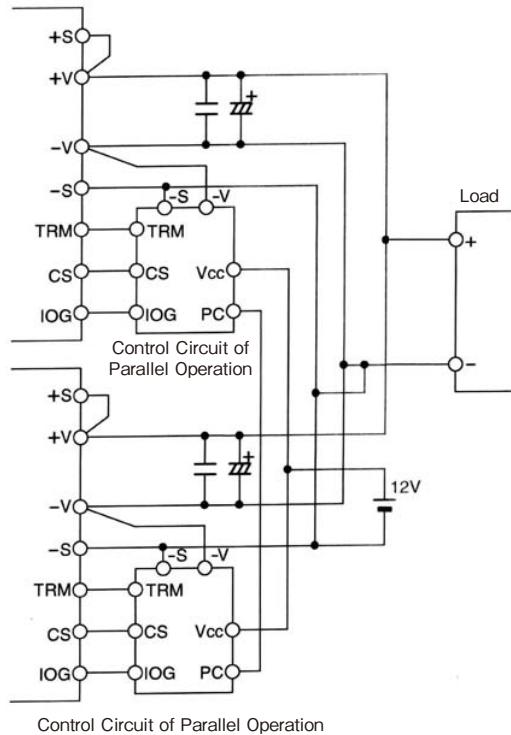
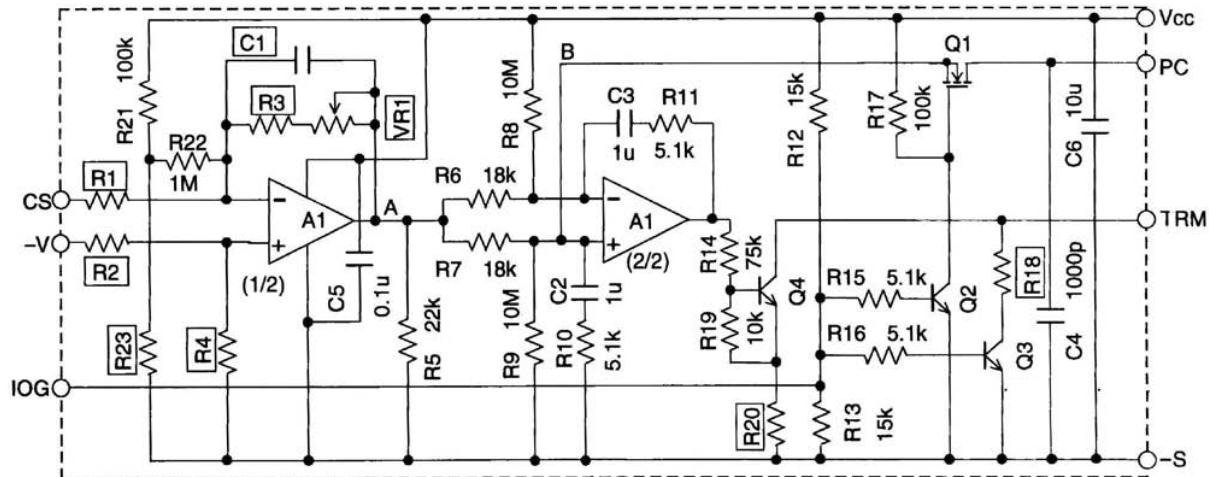

Figure3-1 Basic Connection Circuit of Parallel Operation
Figure3-2 Control Circuit for Parallel Operation
Basic circuit connection is shown in Figure3-1. For control circuit of parallel operation, individually connect a circuit shown in Figure3-2 to each PH300S, 600S series of power module of parallel operation.
(2) Terminal Explanation of Figure3-2
For CS terminal voltage is a small voltage in negative polarity, Op-Amp A1 (1/2) is amplifier inverting shown as Figure3-2. For all of PH modules to be in parallel operation, VR1 shall be adjusted to equalize with the voltage at A point at full load. Setting voltage of A point is 3V to 5V, and the setting accuracy is within $\pm 2\%$. Voltage adjustment of A point can be adjusted with PC terminal of open circuit.
For choosing capacitor(s), refer to values expressed in Figure3-2 and values for each component shown in Table3-2. Use film capacitor or ceramic capacitor which has good temperature characteristics.
For choosing capacitor(s), refer to values expressed in Figure3-2 and values for each component shown in Table3-2. The tolerance shall be less than $\pm 5\%$.